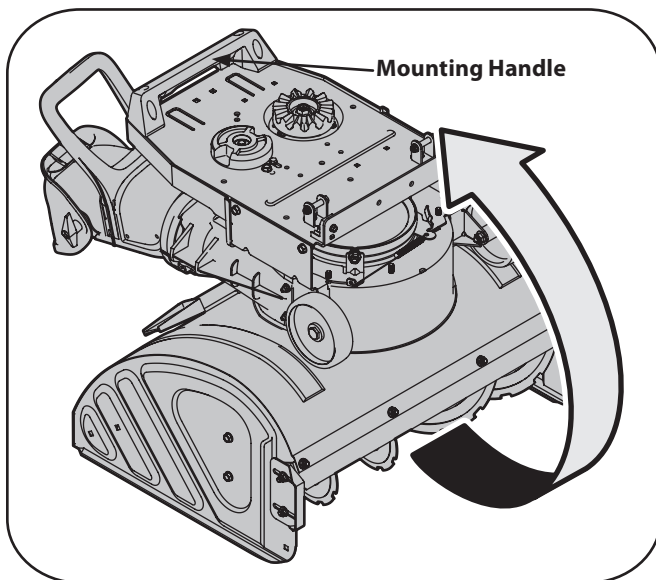

Figure 7-4
4. Carefully tip the FLEX™ Snow Thrower Attachment forward onto the front of the auger housing as shown. Use the mounting handle called out in Figure 7-4 to tip this unit forward. NEVER use the chute handle to either tip this unit forward, for lifting or any other reason other than rotating the discharge chute left or right.